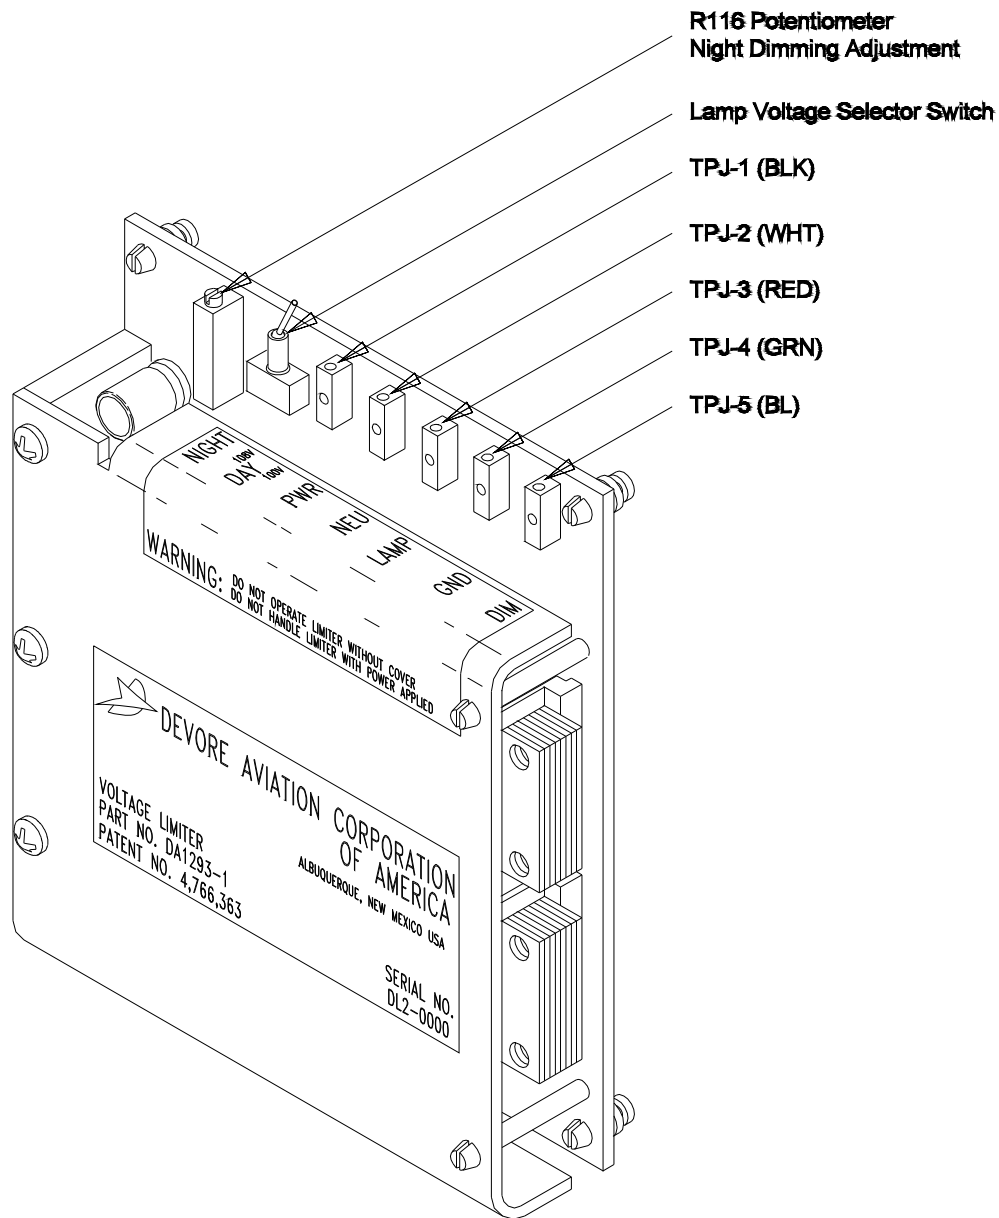

Figure 7a Voltage Limiter
The "voltage limiter II", part number DA1293-1, provides the projector lamp in use with a daytime stabilized voltage of 100 volts or 108 volts. The heliport operator selects the 100 volt or 108 volt setting at the time of installation. The selection is made by switching a small toggle switch located inside the HELI-PLASI 2000 unit on the top left hand side of the voltage limiter. (see Figure 7a)
The night voltage has been preset at the factory. If local conditions dictate an increase or decrease in night intensity, the lamp voltage may be adjusted at the voltage limiter (Figure 7a). Sufficient approaches should be flown at night to determine the proper night voltage setting for local environment.
1. Locate the potentiometer R116 on the voltage limiter Figure 7a.
3. Place a set of voltmeter test leads across the red (TPJ-3) and the white (TPJ-2) test points on the "Voltage Limiter II" unit (Figure 7a).